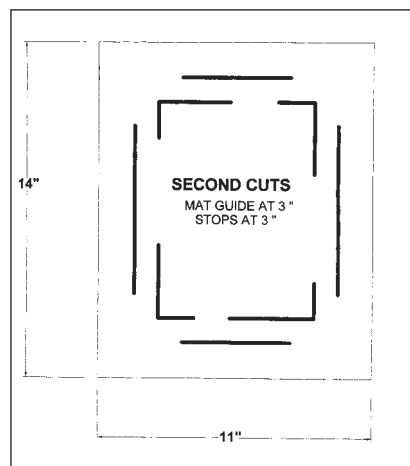

Figure 3
- Repeat on the other three sides. The mat will now look like Figure 3.